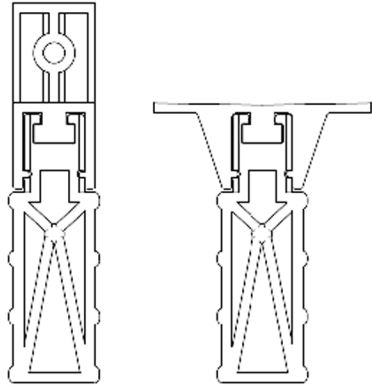

Figure 5
2. Slide bracket into the mounting channel molded into the rear of the charging bar (see **Figure 5**) then lock bracket in place using provided set screws.
3. Slide bracket into the mounting channel molded into the rear of the charging bar (see **Figure 5**) then lock bracket in place using provided set screws.
- Slide bracket into the mounting channel molded into the rear of the charging bar (see **Figure 5**) then lock bracket in place using provided set screws.